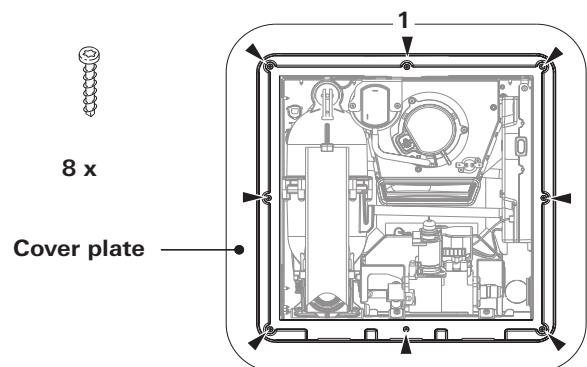

Fig. 23
- Fasten the cover plate to the appliance (see Fig. 23):